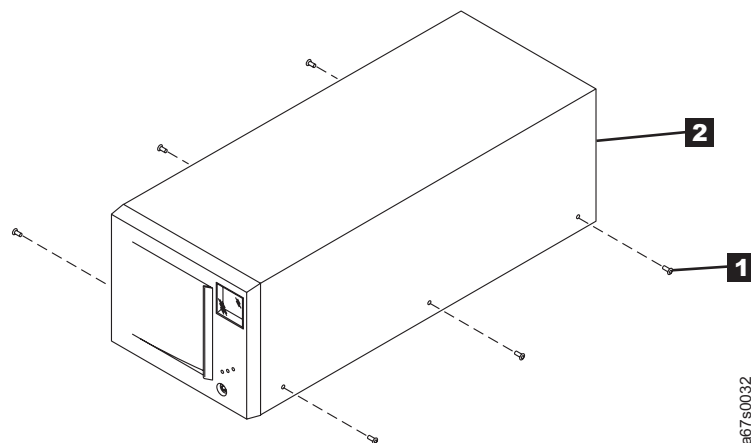

Figure 47. Removing the covers of the 3581 Tape Autoloaders
4. Use a T-10 Torx driver to remove the six Torx screws (see **1** in Figure 47 that secure the left autoloader’s cover **2**).